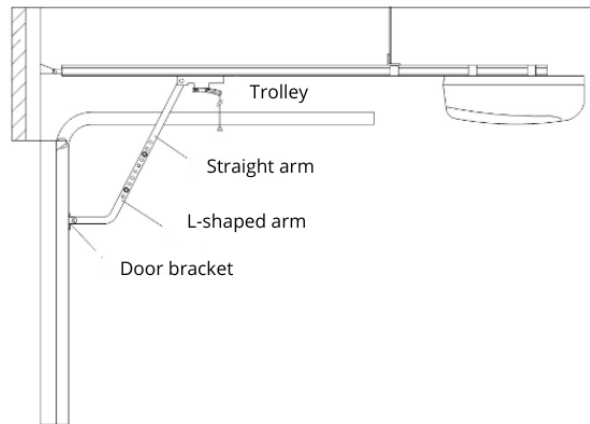

Fig.5.
3. Install the bracket on the door according to the following requirements (Fig. 5) :